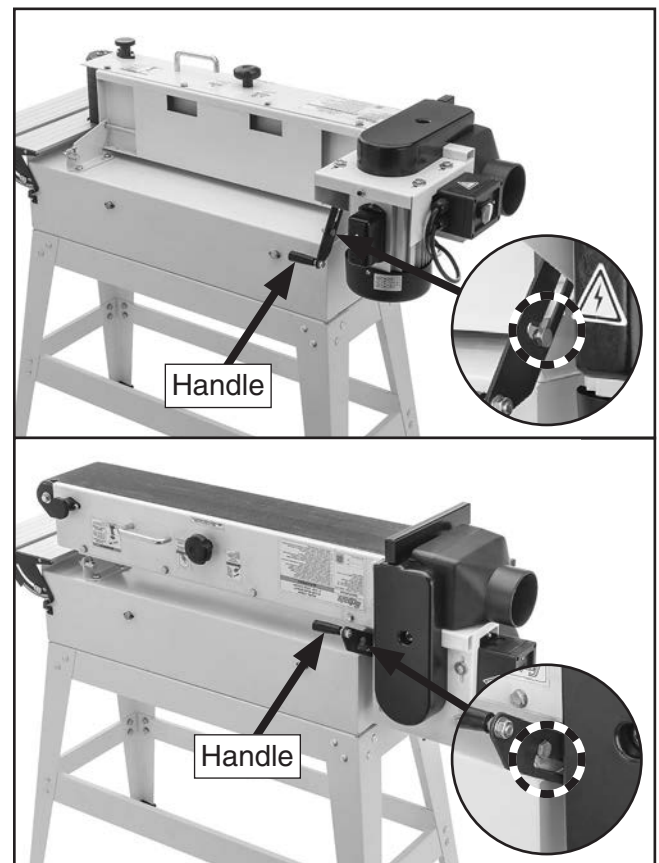

Figure 24. Platen positioned vertically and horizontally.
2. Lift handle to release platen lock (see **Figure 24**).
3. Manually rotate platen assembly to vertical or horizontal position (see **Figure 24**).
4. Push handle down to lock platen in position (see **Figure 24**).